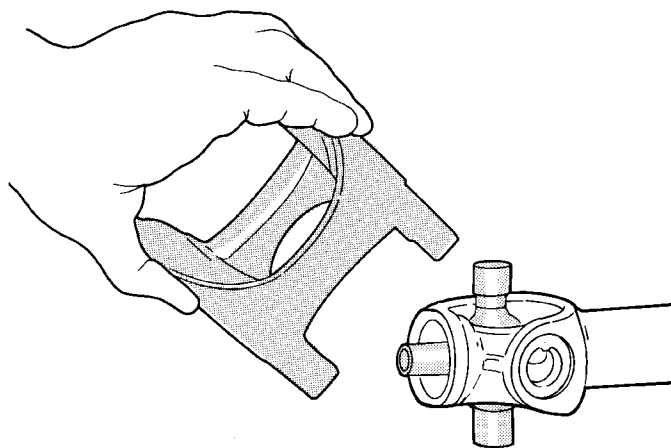

Fig. 28 Install Link Yoke
(7) Fit the link yoke on the remaining two trunnions and press both bearing caps into place (Fig. 28).
(8) Install snap rings.